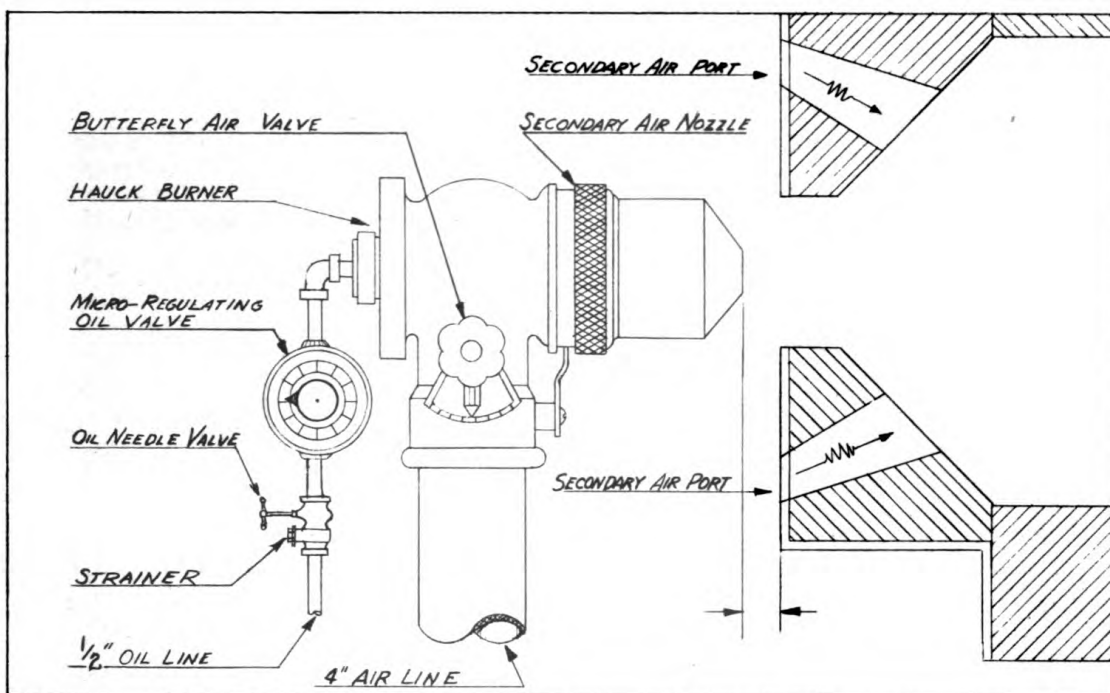

FIGURE 60
2. Close the oil valves, butterfly air valve, and pressure gauge, turn the secondary air nozzle all the way to the left (closed) (See Fig. 60) and open the stack damper.
The strainer oil valve (Fig. 60) should be cleaned out before operation by removing the plug and washing the screen. Be careful not to let any impurities pass through when doing this.